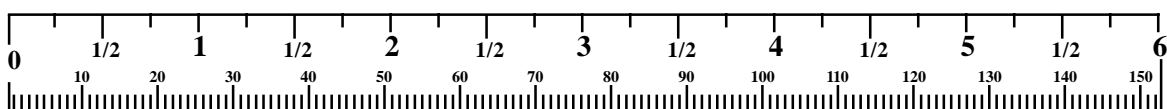

**FIGURE 29****STEP 29:**
- Route the MULTI PRESS CABLE (73) through the MULTI PRESS FRAME (8) and assemble one 4-1/2" PULLEY (26) to the FRAME (8) using four RH CAPS (69), one 3/8 X 67mm BOLT (55), one 3/8 X 61mm BOLT (54), four 3/8" SAE WASHERS (66), four 3/8" RH WASHERS (67), two 3/8 X 1/2" FLANGE SPACERS (46) and two 3/8" LOW HEIGHT LOCK NUTS (65) as shown in FIGURE 29.
- Route the MULTI PRESS CABLE (73) through the MULTI PRESS FRAME (8) and PIVOT ARM (5) and assemble one 4-1/2" PULLEY (26) to the PIVOT ARM (5) using one BLACK RH CAP (68), one RH CAP (69), one 3/8 X 70mm BOLT (56), two 3/8" SAE WASHERS (66), two 3/8" RH WASHERS (67), one 2-7/8" X 2-1/4" CABLE CLIP (28), two 3/8 X 1/2" FLANGE SPACERS (46) and one 3/8" LOW HEIGHT LOCK NUT (65) as shown in FIGURE 29.